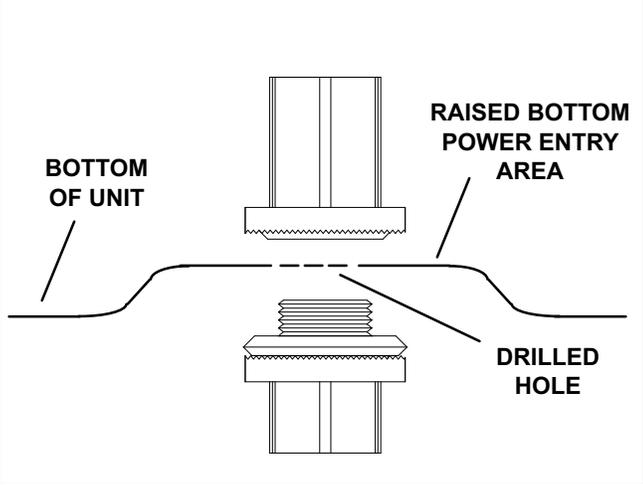

FIGURE 3
- 4- Place half of the bulkhead connector beneath the base pan and the other half above the base pan. Thread the connector halves together to make a tight seal. See figure 3.